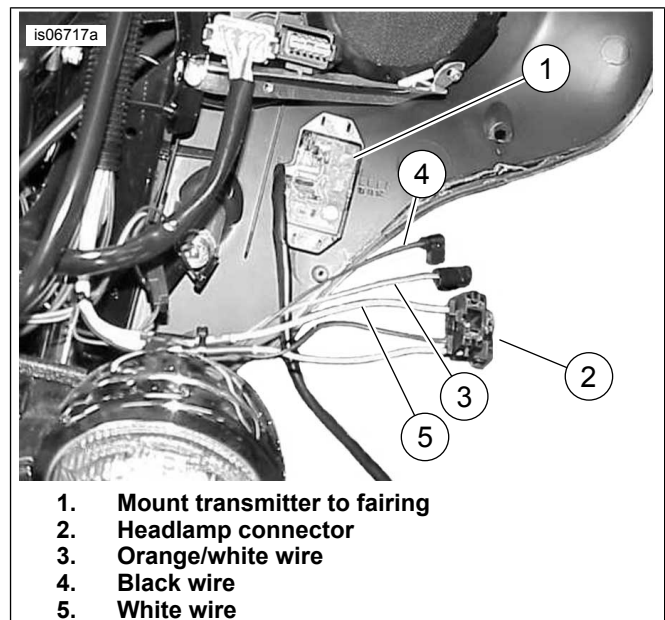
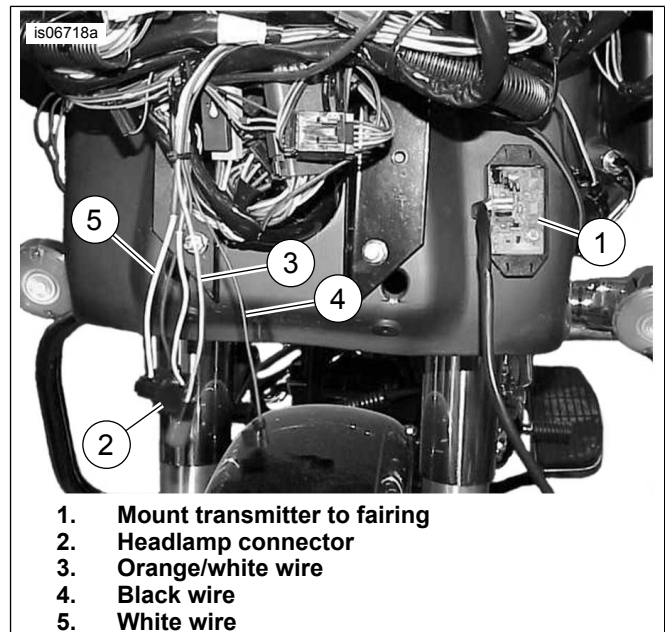

Figure 11. Wires for Transmitter Connections (2013-Earlier FLHT/X)
Figure 12. Wires for Transmitter Connections (2013-Earlier FLTR)
Touring/Trike (FLHT/X, FLTR, 2013-earlier)	Upper inside of fairing, with foam pad (remove outer fairing first) (See Figure 11. and Figure 12).
3. See Figure 11. (FLHT, FLHX models) or Figure 12. (FLTR models). Mount the transmitter to the upper inside of the fairing.